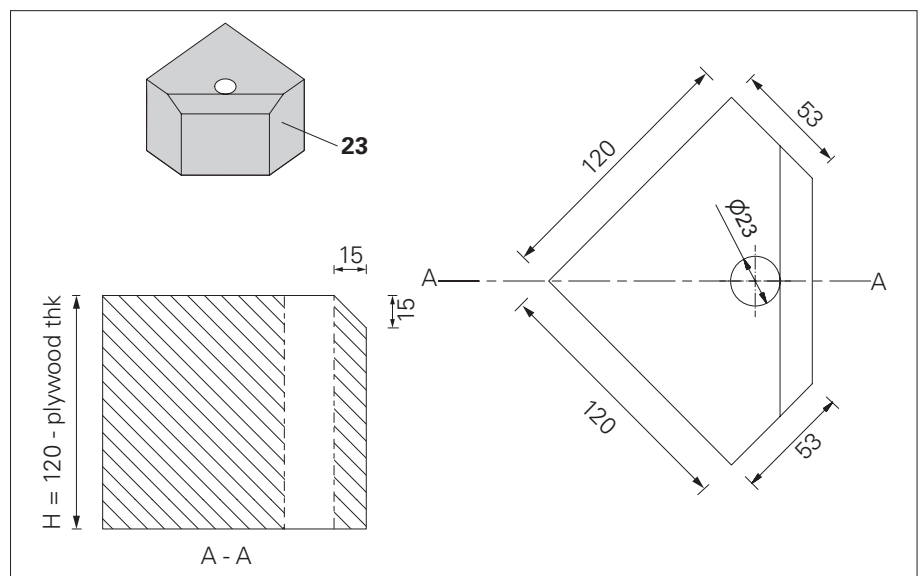

Fig. A7.07
2. Prepare a timber block (23) as per dimension shown. Height of timber H (in mm) = 120 - plywood thickness (Fig. A7.07)
2. Prepare a timber block (23) as per dimension shown where height of timber ($H = 120 - \text{plywood thickness}$). (Fig. A7.07 on page 29)